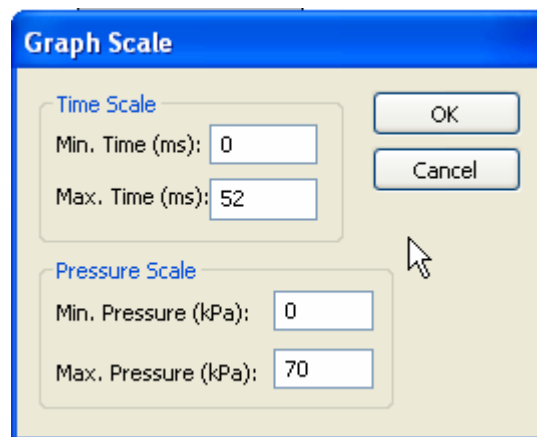

Figure 17 Example Graph Scale dialog box.
11. To examine only the positive phase, click the manual scale button to display the Graph Scale dialog box and enter the values shown in Fig. 17.